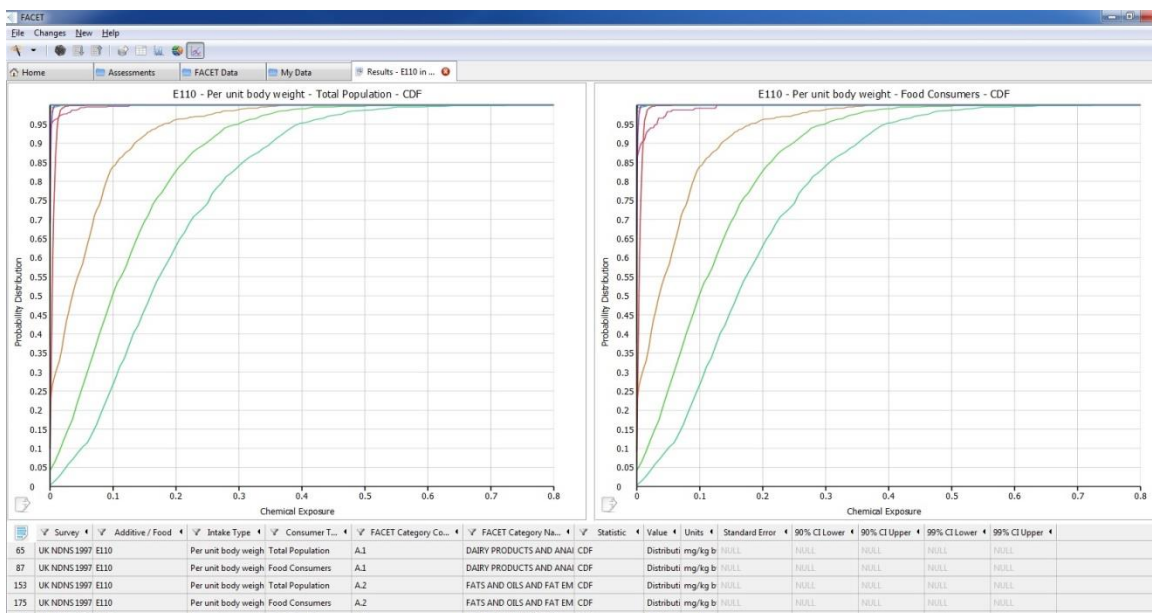

Figure 34: Results viewer: Line Graph and Data
- **CDF:** Cumulative distribution function, which displays the probability that an exposure value will be found at a value less than or equal to a given number (Figure 34).